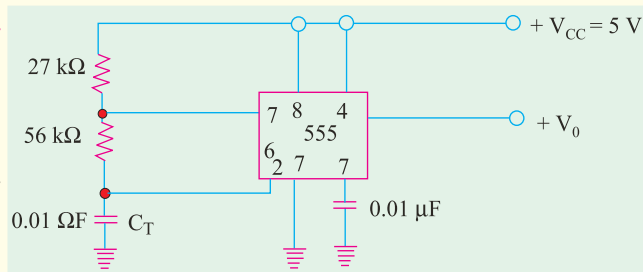

Fig. 65.40
14. Calculate the frequency and the duty cycle of the output of stable multivibrator and draw the waveform obtained across the capacitor  $C_T$ , as shown in Fig. 65.40. (Electronics Engg, Bangalore Univ. 2001)
10. The RC network shown in Fig 65.40 can provide a maximum theoretical phase shift of